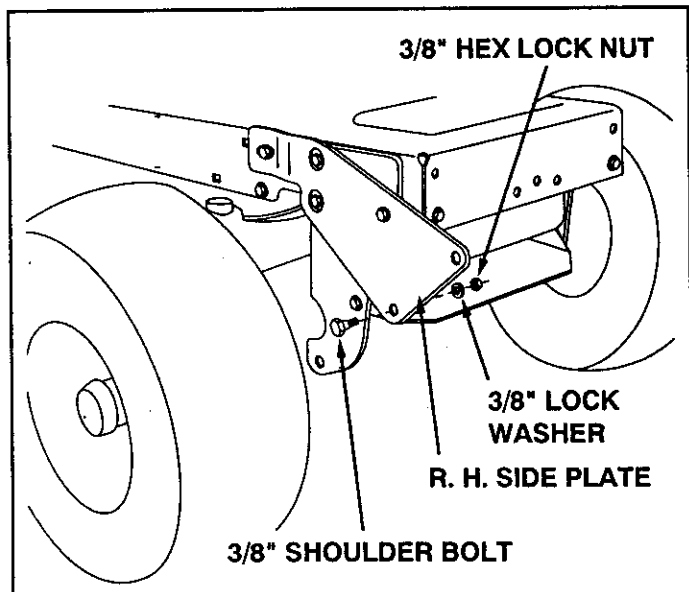

FIGURE 3
- Assemble a shoulder bolt to the bottom hole in each side plate, securing each bolt with a 3/8" lock washer and a 3/8" hex lock nut. See figure 3.